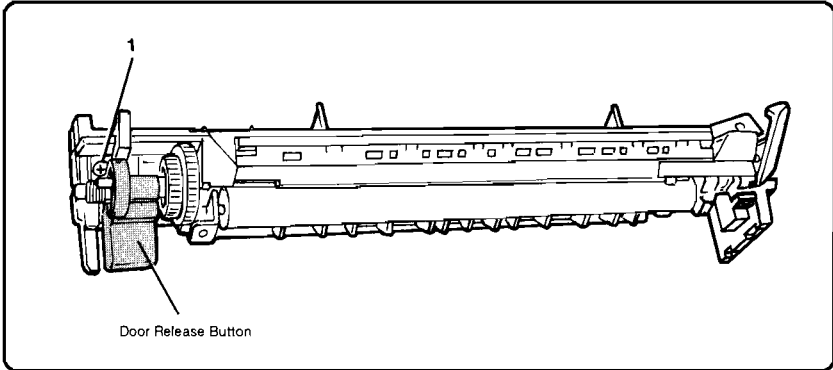
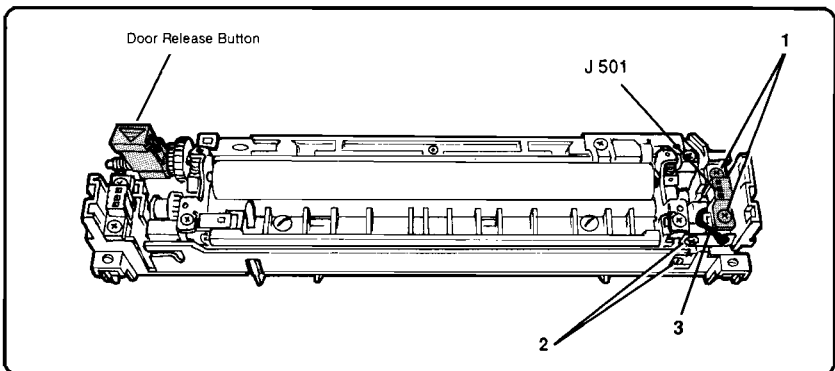
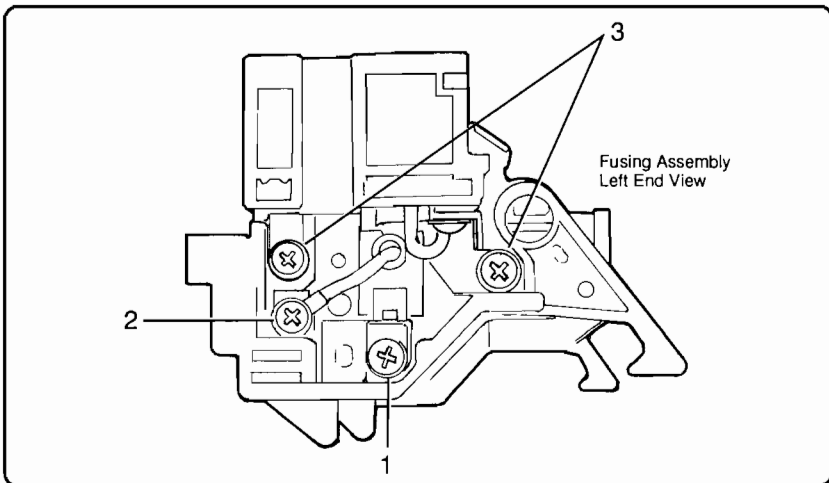

Figure 6-56. Heat Lamp Removal
Figure 6-57. Heat Lamp Removal (continued)
Figure 6-58. Heat Lamp Removal (continued)
2. Loosen (2 to 3 turns) the screw (1) securing the Heat Lamp Shaft (see Figure 6-56, callout 1).
3. Remove the screws (2) securing connector J501 and lift the connector up about one half-inch (see Figure 6-57, callout 1).
4. Remove the screws (2) securing the Connector Bracket (see Figure 6-57, callout 2).
5. Remove the screw (1) securing the Heat Lamp Retaining Spring Clip and remove the spring clip (see Figure 6-58, callout 1).
6. Remove the screw (1) securing the Heat Lamp Cable (see Figure 6-58, callout 2).
7. Remove the screws (2) securing the Connector Bracket (see Figure 6-58, callout 3).
When installing J501, ensure that the connector wire (see Figure 6-57 callout 3) does not interfere with J501. If the connector is not free to move, damage may result.
2. Remove the Heat Lamp (see Figure 6-56, Figure 6-57, and Figure 6-58).